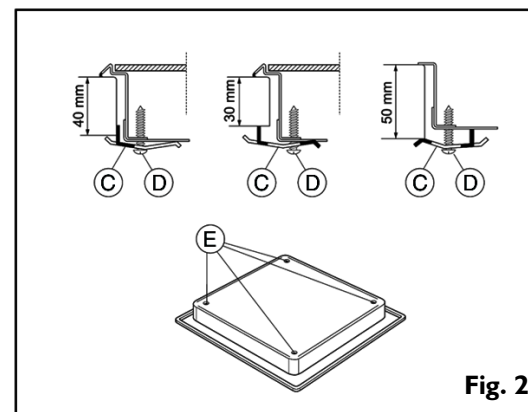

Fig. 2
Attention: to install the hob on other surfaces than wood (marble, plastic, ceramic, marble, stone, etc.) remember to ask After Sales Service for the fixing plates (fig. 2) Code 4819 404 78697.
- **If the worktop is made of marble, plastic, ceramic, stone, etc.**, the hob must be secured with special brackets **(C)** (fig. 2).
- 2. Place the 4 brackets **(C)** in position in accordance with the thickness of the worktop as shown in fig. 2.
- 3. Fasten the 4 screws **(D)** in the positions **(E)** (fig. 2).